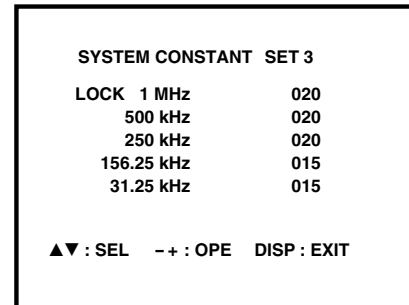

Fig. 2
1. While pushing down the 2 claws maked (E) as shown in Fig. 2.
2. When you pull out the Control base in the direction of arrow maked (F) as shown in Fig. 2.
2) In the SERVICE MENU, press the DISPLAY key and PICTURE MODE key simultaneously. Then, the SYSTEM CONSTANT SET screen will be displayed.(See Fig.2.)